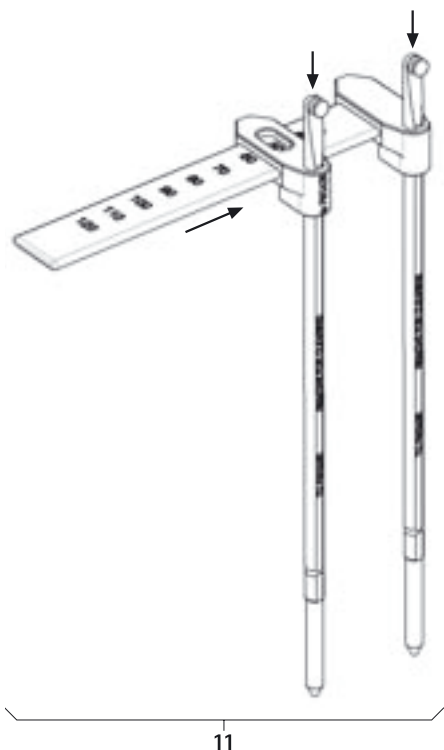

Fig. 15
- Mount rod length measuring instrument **11**, see Fig. 15.